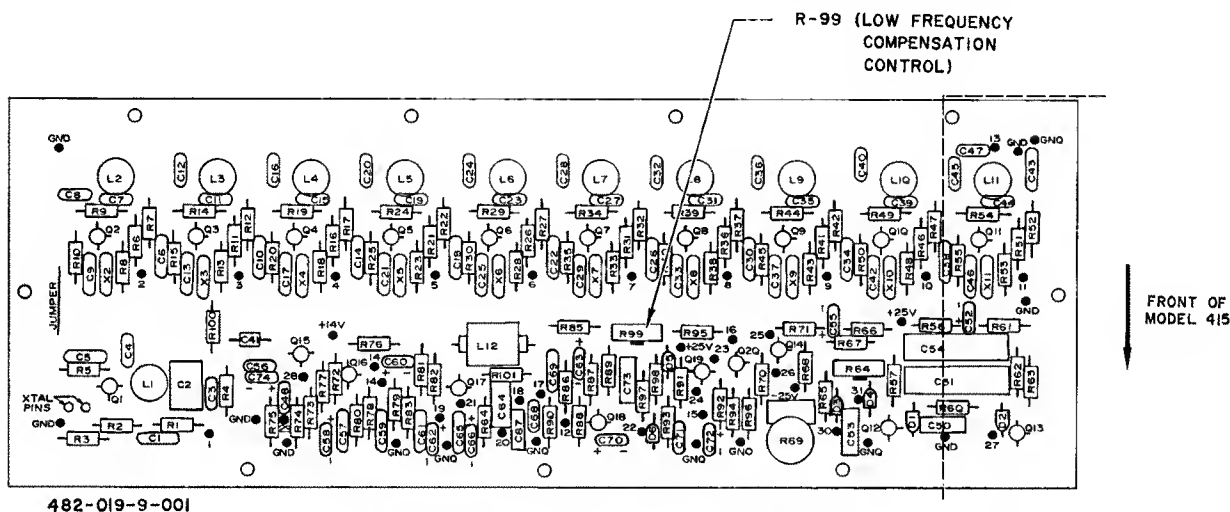

Figure 5.8 Location of Low Frequency Compensation Control (R-99)
INTERNAL ADJUSTMENT—R99, low frequency compensation (See Figure 5.8). Used if necessary to correct tilt errors caused by poor low frequency response of the oscilloscope.
- 5.4.1 If the operator is using an oscilloscope having poor low frequency response in conjunction with the Model 415, erroneous tilt will be introduced into the response patterns which is a function of the oscilloscope itself rather than being a function of the television receiver which is being aligned. The Model 415 has an internal adjustment which is used, when required, to compensate for poor low frequency response of the oscilloscope. The frequency compensation adjustment (R-99) is located on the printed circuit board inside the Model 415 and is accessible by opening the top cover of the unit. The location of this control is indicated in Figure 5.8. Normally, when no compensation is required this control is set to the extreme left position as viewed from the front of the unit. The Model 415 is shipped from the factory with the control in this position.